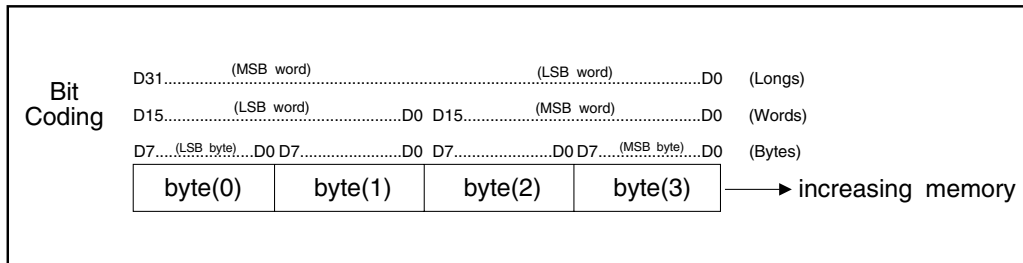

Figure B.1 680x0 Bit and Byte Numbering Conventions
Data in 680x0 memory is typically described as shown in Figure B.1, and can be bytes, words, or longs. Bytes are numbered left to right (in the direction of increasing memory) and are identified as byte(0), byte(1), byte(2), and byte(3) and have the corresponding 680x0 hex addresses xxxxx0, xxxxx1, xxxxx2, and xxxxx3 (or xxxxxxx0, etc. for 32 bit addressing mode).
In Figure B.1, byte(0) is the lsb byte in the byte sequence byte(0), byte(1), byte(2), and byte(3). For words, byte (0), byte(1) is the lsb word, and byte(2), byte(3) is the msb word (the next word). For a long, all four bytes are used to represent the long, and the byte pair byte(0), byte(1) is the msb word of the long, and byte pair byte(2), byte(3) is the lsb word of the long.
As can be seen by examining Figures B.1, B.2, B.3, and B.4, data transferred from 680x0 memory directly to TMS34010 memory without modification only meets our objective if the data being transferred are words.